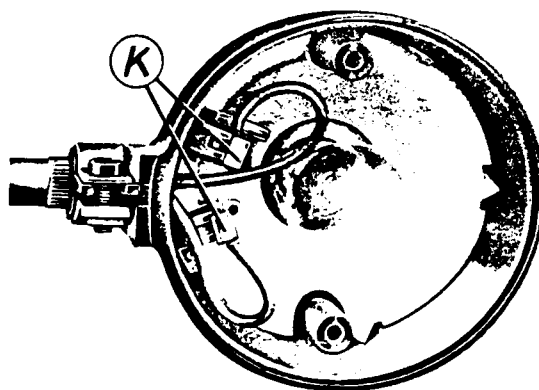

Fig. 115. Connections at the flashing-light indicator
It should be noted that for the 4-lamp flashing direction indicating system (TS 125 and 150) a flasher unit of 6 V, 21 W is required. The flasher unit of 6 V, 18 W, can only be used for the 2-lamp system (ES 125/1 and 150/1). The cables are clamped in the flashing-light fitting of the TS 125 and 150 [(K) in Fig. 115].